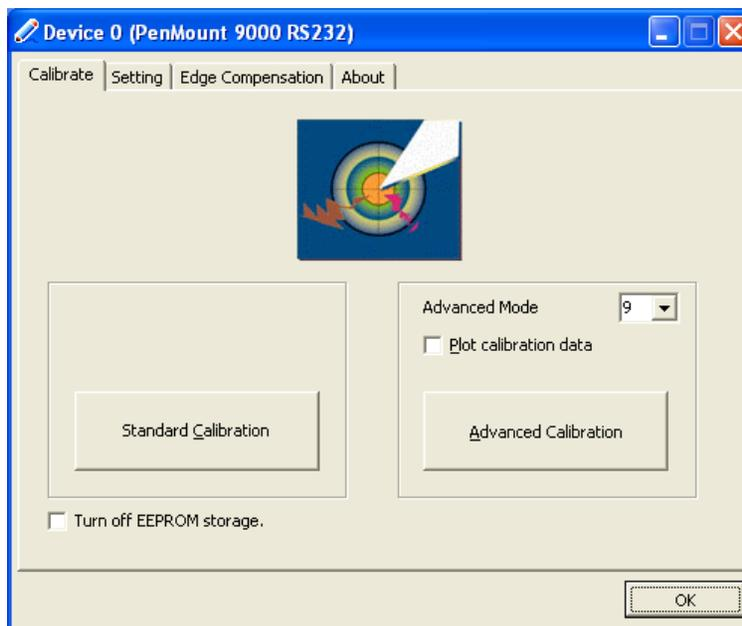

Figure 3-9: Calibration Initiation Screen
Step 7: The calibration initiation screen in **Figure 3-9** appears.
Step 8: Select the **Standard Calibration** button as shown in **Figure 3-9**.